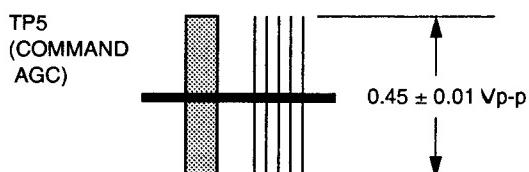

Fig. 4-2-10
- Adjust VR4 so that the Command level of the first AGC signal becomes $0.45 \pm 0.01 \text{ Vp-p}$ as shown in the Fig. 4-2-10.